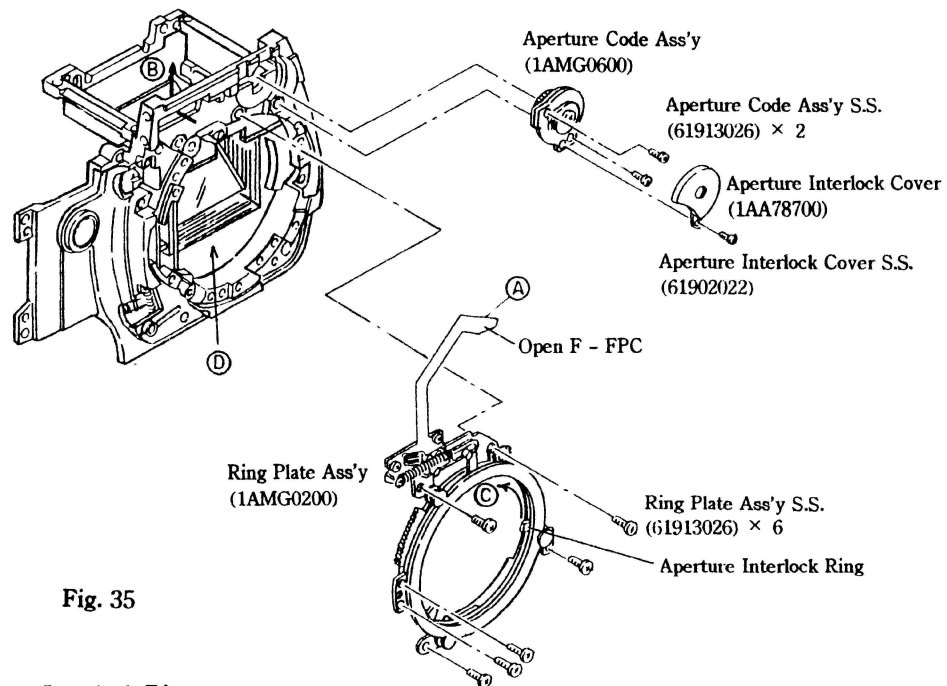

Fig. 35
- 3) Move the Aperture Interlock Ring in the direction of the arrow (C) and hold it there. (See Fig. 35)